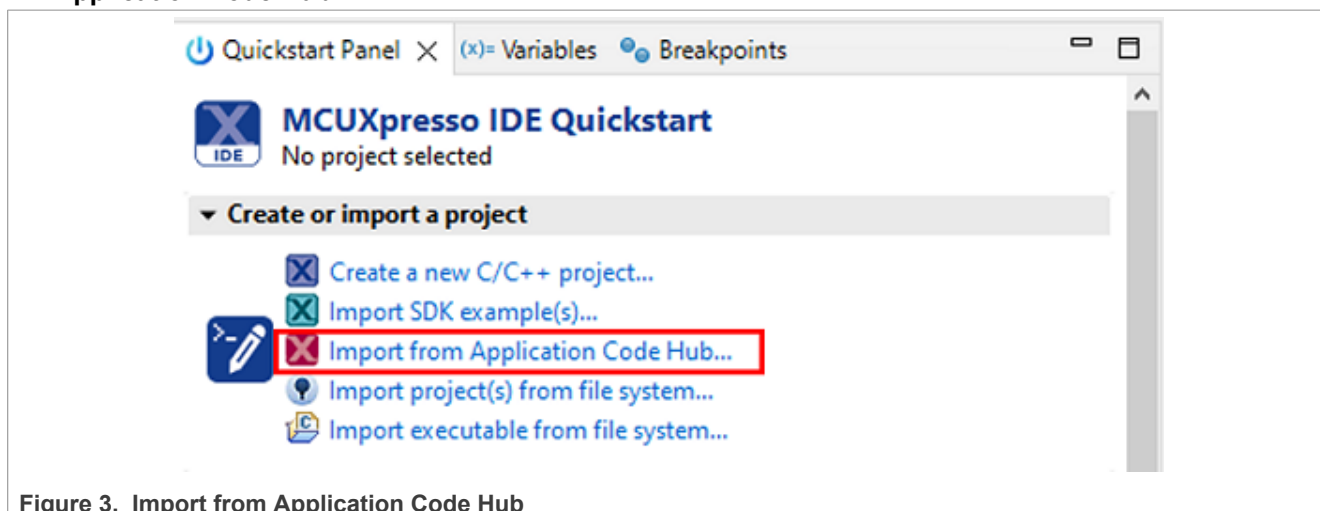

Figure 3. Import from Application Code Hub
1. As shown in Figure 3, open MCUXpresso IDE 11.9.0. In the **Quick Start Panel**, choose **Import from Application Code Hub**.